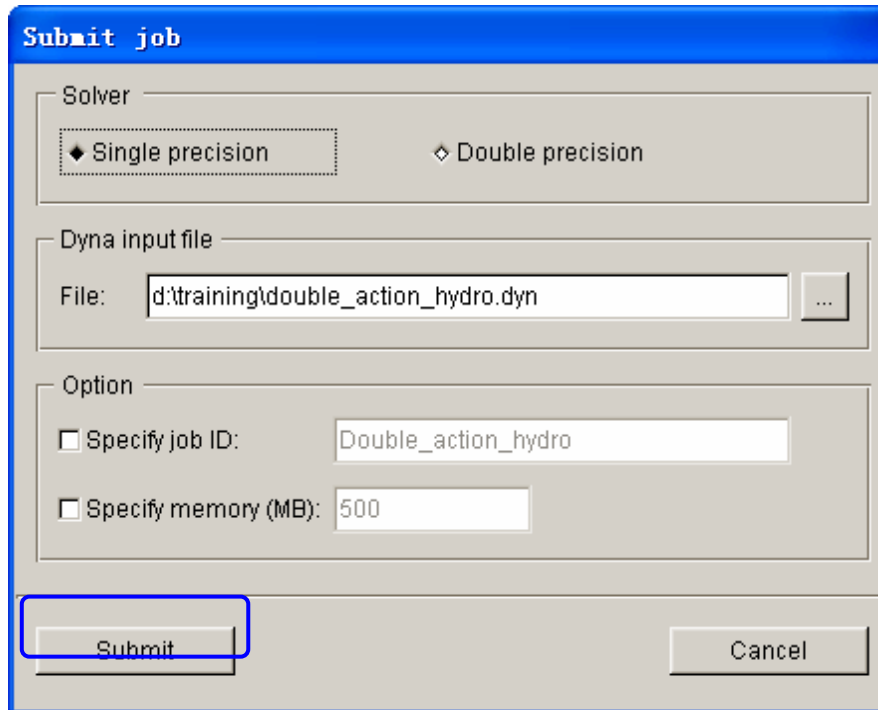

Figure 7.53 Submit job dialog box
2. The SUBMIT JOB dialog box illustrated in Figure 7.53 is displayed.